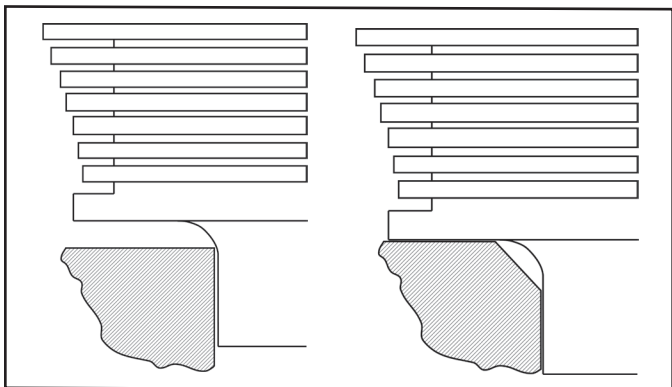

Figure 1
- I. Deburr and remove any nubs or protrusions which could accidentally break off. Break the corner on outside of spigot holes with a deburring tool. This insures that cylinder will not hang up during installation causing oil leaks due to inadequate gasket compression. **Figure 1, next page top left,** shows an exaggerated view.